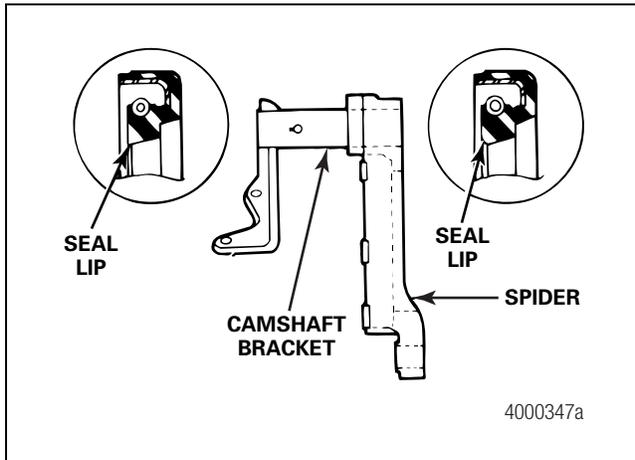

Figure 5.17
- E. Place a seal into the bore of the spider and bracket. The lips of the seal must face the slack adjuster. Use the correct size driver to install the seals into the bore. The seal is correctly installed when the bottom of the seal touches the bottom of the bore. Figure 5.17.